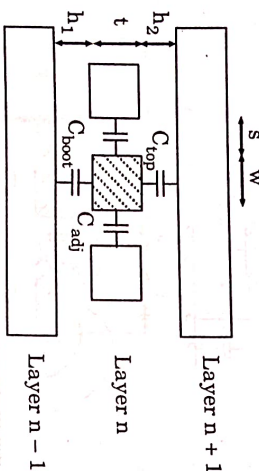

Fig. 2.2.3. Multi layer capacitance model.
- which is good to 6 % for aspect ratio less than 3.3. A cross-section of the model used for capacitance upper bound calculations is shown in Fig. 2.2.3.